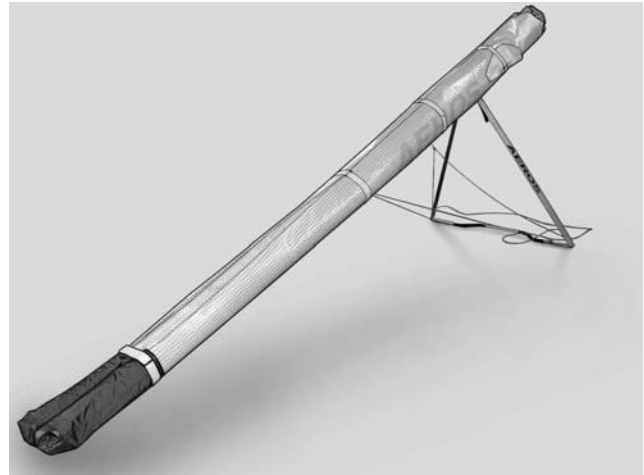

Fig. 26
12. Secure the sail with the velcro sail ties. The first velcro tie is installed by passing it over the top of the keel tube just near the Crossbar-LE tube junctions, and then installing it around the glider leading edges (*Fig.26*).